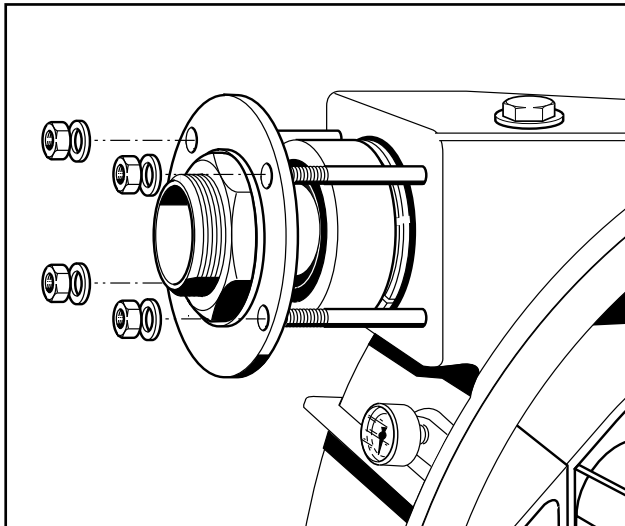

Fig. 28 Disassembly of connecting sockets
5. Then the shims (Fig. 28) must be removed to reduce the discharge pressure or additional shims must be added to increase the discharge pressure. If shims are changed, you must make sure that both sliding shoes are changed to the same dimension. The measurements must comply exactly with the table (see below).
5. Unscrew both connecting sockets complete with retaining flange and hexagon tube nuts from the pump housing (Fig. 28) and pull both connecting sockets out of the pump hose.